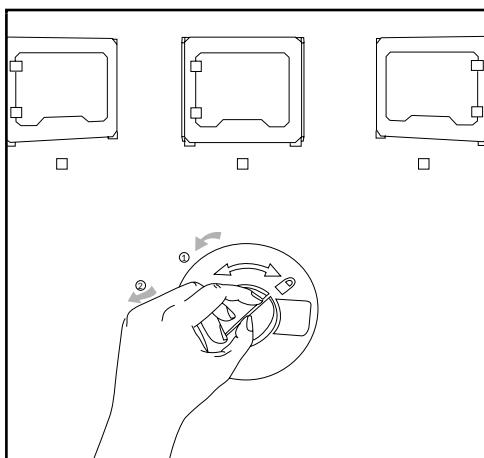
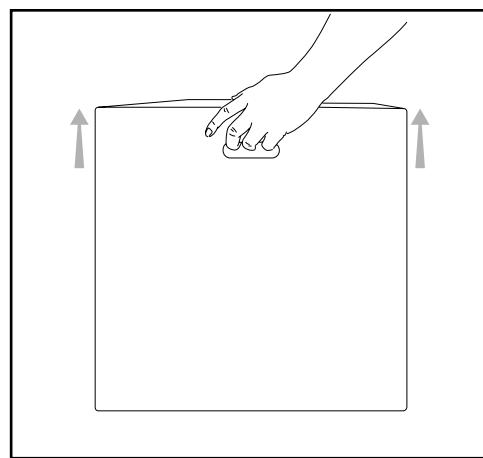

Figure 2.1 Undo the round plastic tabs on both sides
Figure 2.2 Lift off the top cover
- ➊ The box is made from two pieces of cardboard: a tray-shaped piece on the bottom and a printed cover on top. To remove the cover, first undo the two round plastic tabs connecting it to the bottom piece (fig. 2.1). Then lift the cover using the handles near the top (fig. 2.2); it should lift off easily.